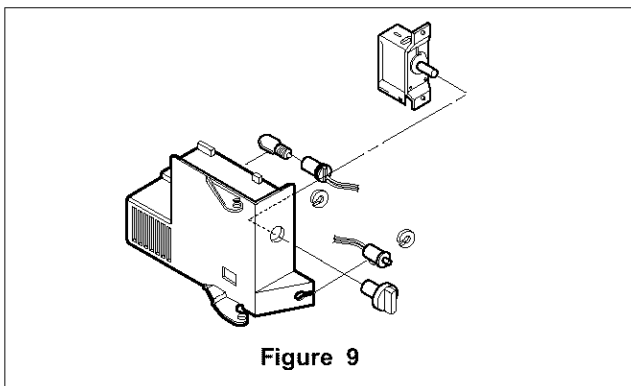

Figure 9
3. Pull out thermostat in the thermostat cover, and disconnect lead wires. (Figure 9)